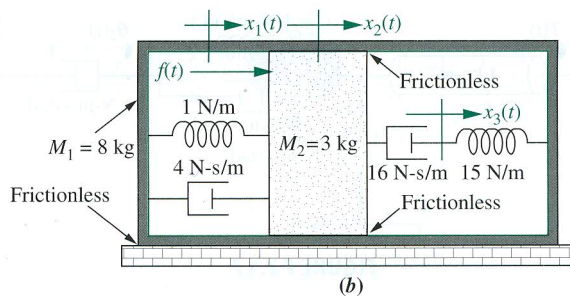

FIGURE P2.14
28. Find the transfer function,  $X_3(s)/F(s)$ , for each system shown in Figure P2.14. [Section: 2.5]